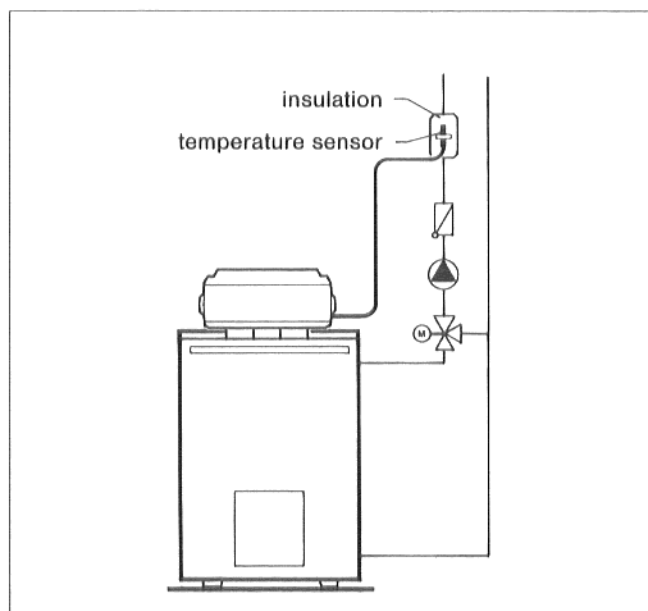

Fig. 1
2. Mount the temperature contact sensor directly behind the mixing valve and the heating circuit pump on the heating flow pipe. (Fig. 1)